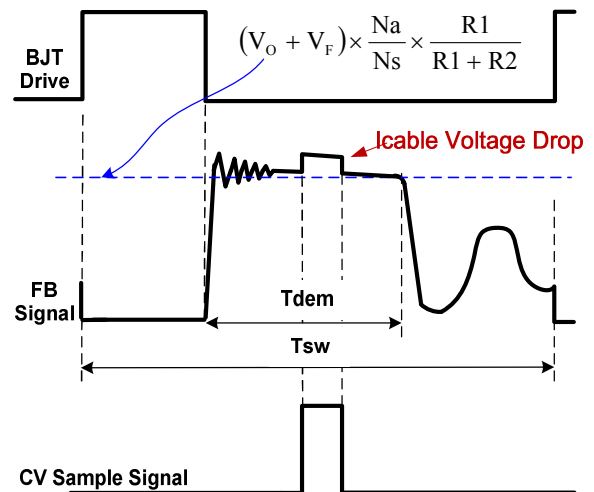

Fig.2
In primary side control, the output voltage is sensed on the auxiliary winding during the transfer of transformer energy to the secondary. Fig.2 illustrates the CV sampling signal timing waveform in DP2525JC. As shown in Fig.2, it is clear that there is a down slope representing a decreasing total rectifier V_f and its voltage drop as the secondary current decreases to zero. To achieve an accurate representation of the secondary output voltage on the auxiliary winding, the CV sampling signal blocks the leakage inductance reset and ringing. When the CV sampling process is over, the internal sample/hold (S&H) circuit captures the error signal and amplifies it through the internal Error Amplifier (EA). The output of EA is sent to the Primary Side Constant Voltage Modulator (PSR-CVM) for CV control. The internal reference voltage for EA is trimmed to 2V with high accuracy.
During the CV sampling process, an internal variable current source is flowing to FB pin for Cable Drop Compensation (CDC). Thus, there is a step at FB pin in the transformer demagnetization process, as shown in Fig.2. Fig.2 also illustrates the equation for “demagnetization plateau”, where V_o and V_f is the output voltage and diode forward voltage; R_1 and R_2 is the resistor divider connected from the auxiliary winding to FB Pin, N_s and N_a are